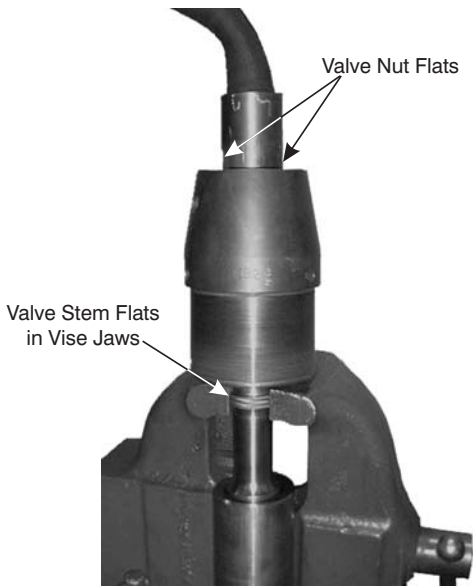

Figure 11-3. Place End Cap in Vise.
be below the jaws, as shown in Figure 11-3.
3. Secure the Tail Assembly in the vise by clamping the jaws firmly across the flats of the Valve Stem (4) as shown in Figure 11-3.